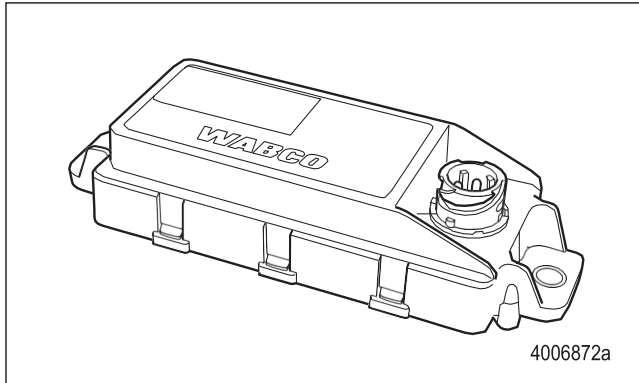

Figure 3.31
- The module must be mounted in a manner where the WABCO name on the unit is right-side up. Figure 3.31. The module will always be mounted perpendicular to the frame rails of the vehicle and the connector of the module could be facing the front or rear of the vehicle depending on the OEM's specified mounting. It is critical that the unit be mounted in the exact location and manner as originally installed by the vehicle manufacturer.